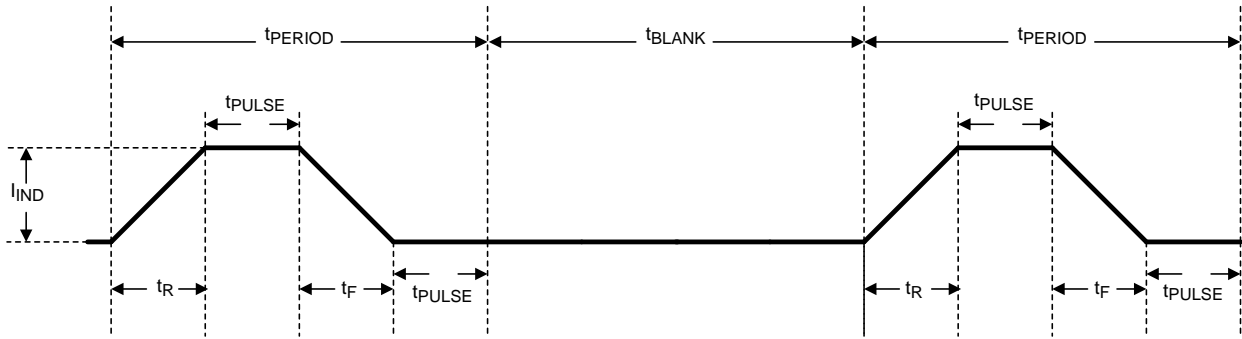

Figure 32. Message Indicator Timing Diagram
2. Number of periods (PERIOD #). This has 8 steps. A period (t_{PERIOD}) is found by ($t_{\text{PERIOD}} = t_{\text{R}} + t_{\text{F}} + 2 \times t_{\text{PULSE}}$). (see Figure 32 for indicator timing).